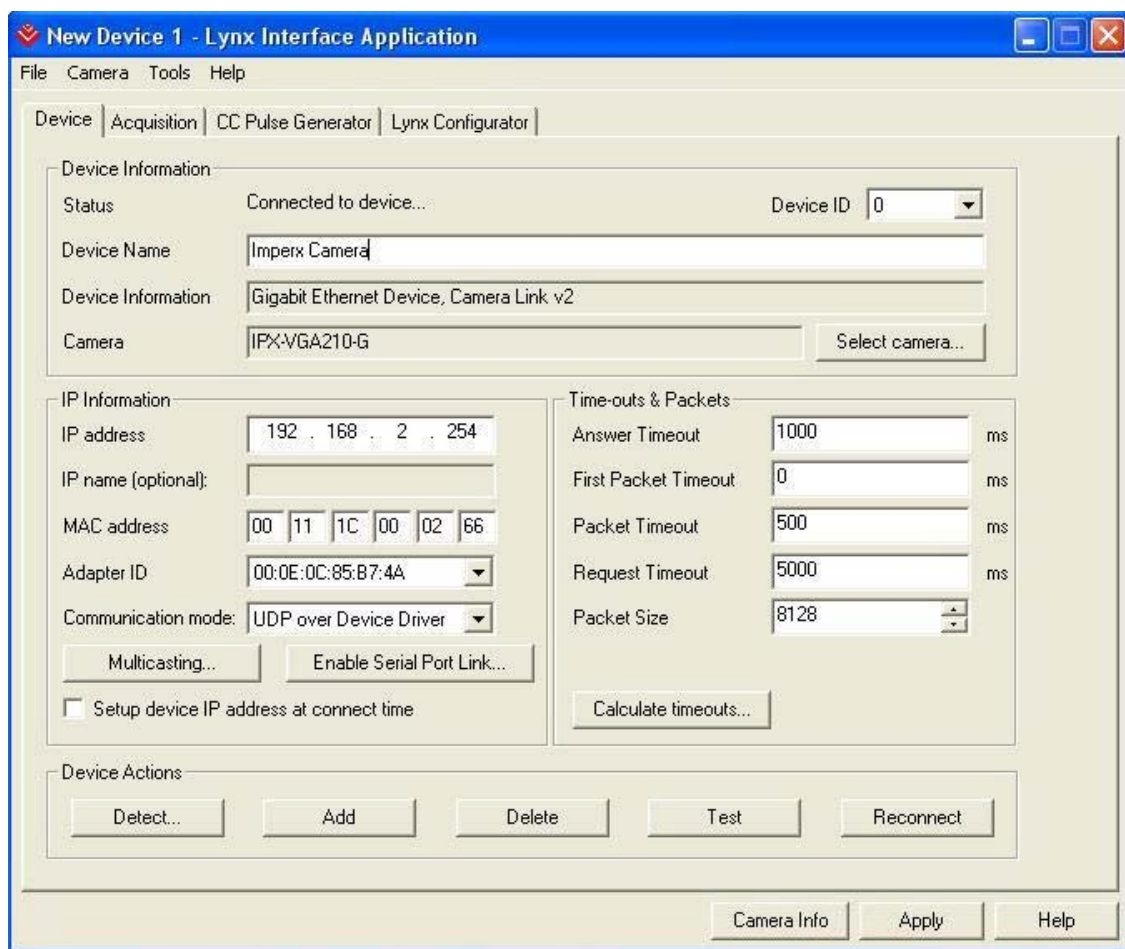

Figure 5.2 - Application Window and Device Tab
3. Click on Detect button in “Device Tab”. The device finder window shown in figure 5.2 will appear.
The Device tab is used to edit the configuration of the IP engine or engines being used in the application. As shown in Figure 5.2, the controls on this page display the configuration of the currently selected IP engine.